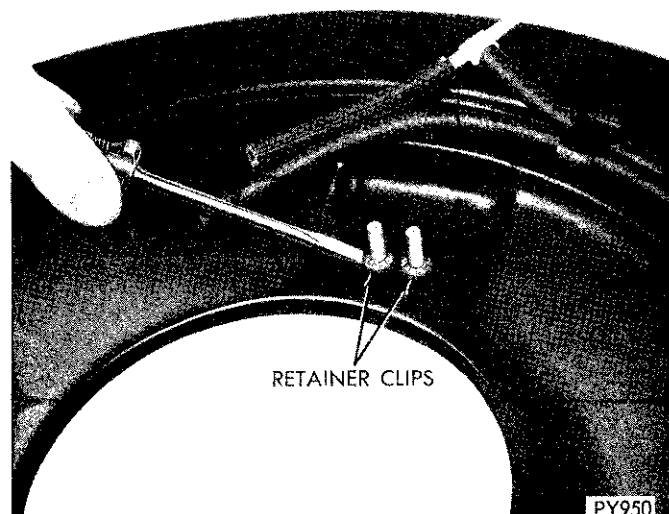

Fig. 8—Removing Retainer Clips
(1) Disconnect vacuum hoses from sensor, remove retainer clips (Fig. 8), and discard (new clips are supplied with a new sensor).
(2) Remove sensor with gasket and discard.